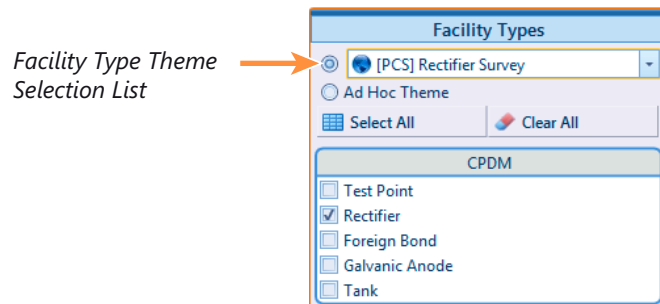
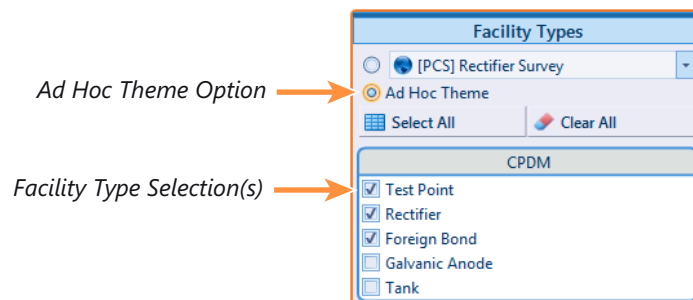

Figure 9-5. Facility Type Theme Option
Figure 9-6. Ad Hoc Theme Option
- a To select a facility type theme, click the themes option button and then click the down arrow and select a theme in list, such as *[PCS] Rectifier Survey* (Figure 9-5).
- b To select multiple facility types, click the **Ad Hoc Theme** option and then click the check box for one or more facility types, such as *Test Point*, *Rectifier*, and *Foreign Bond* (Figure 9-6).
- 3 Choose the facility type(s) you want to work with by selecting a *facility type theme* or setting up an *Ad Hoc Theme* in *Facility Types*. See Figure 9-5 or Figure 9-6 on page 426.